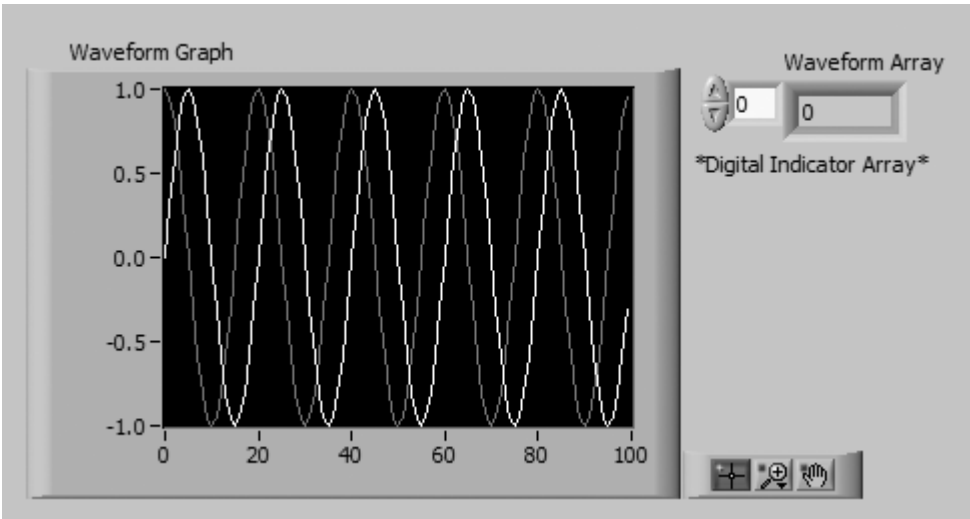

Figure 8.19
1. You will build a VI that generates a sine wave array and plots it in a waveform graph. You will also modify the VI to graph multiple plots (see Figure 8.19).